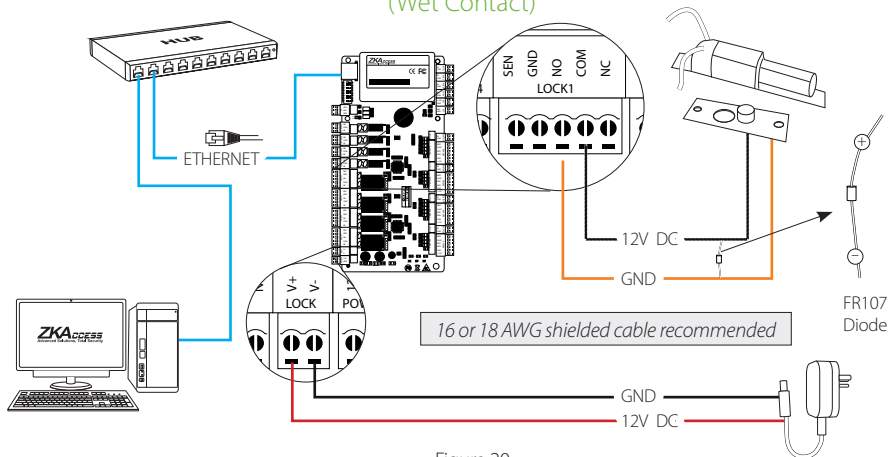

Figure 20
2. Connect the lock as shown in the diagram, (see figure 20 and 21)